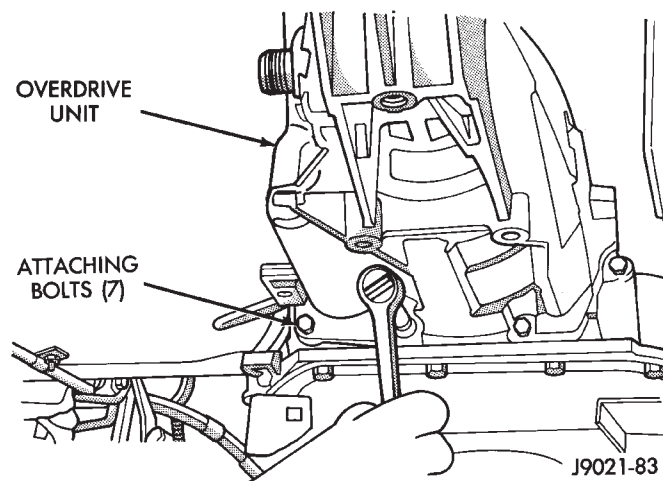

Fig. 8 Removing/Installing Overdrive Unit Attaching Bolts
(7) Disconnect vacuum switch hoses at transfer case, if equipped.
(8) Disconnect transfer case shift linkage at transfer case range lever. Then remove linkage bracket bolts and remove linkage and bracket from transfer case. Move linkage aside for clearance.
(9) Remove nuts attaching transfer case to overdrive unit.
(10) Remove transfer case. Support transfer case with transmission jack (secure transfer case to jack with safety chains). Then move transfer case rearward and off overdrive case.
(11) Remove transfer case from jack and position it on bench.
(12) Support transmission with adjustable jack stand. Position wood block between jack and transmission case.
(13) Remove nuts and bolts attaching transmission mount to center crossmember.
(14) Remove nuts and bolts attaching crossmember to frame rails.
(15) Rotate crossmember diagonally to clear frame rails and remove crossmember.
(16) Support overdrive unit with transmission jack.
(17) Remove bolts attaching overdrive unit to transmission (Fig. 8).
(10) Verify that splines in overdrive planetary gear and overrunning clutch hub are aligned with Tool 6227-2 (Fig. 8). **Overdrive unit cannot be fully installed if splines have rotated out of alignment. If misaligned has occurred, overdrive will have to be disassembled in order to realign splines.**
(11) Install overdrive unit as follows: